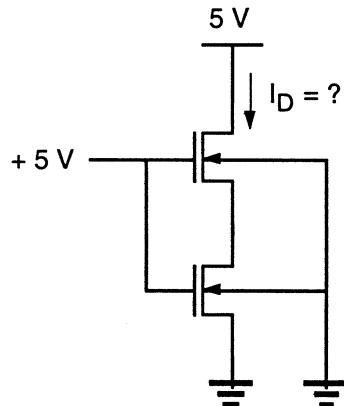

Figure P3.11
- 3.11** Using the parameters given below, calculate the current through two nMOS transistors in series ( see Fig. P3.11), when the drain of the top transistor is tied to  $V_{DD}$ , the source of the bottom transistor is tied to  $V_{SS}=0$  and their gates are tied to  $V_{DD}$ . The substrate is also tied to  $V_{SS}=0V$ . Assume that  $W/L = 10$  for both transistors.